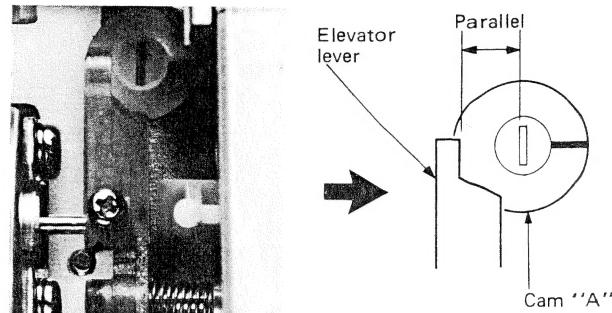

Fig. 14
- Set the arm height adjustment cam "A" as shown in Fig. 14 in reference to the elevator lever.